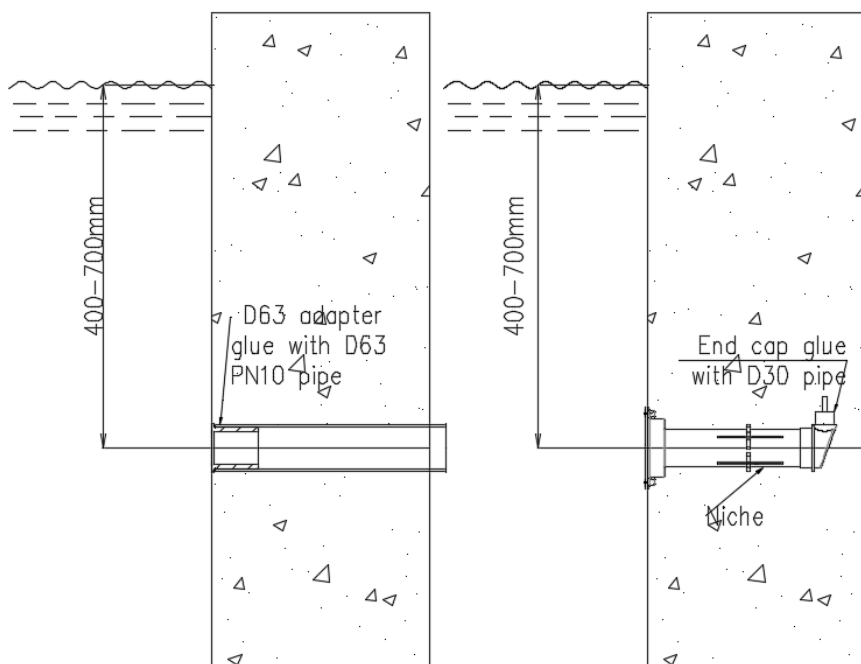

Fig. 1
1. Install the D63 adapter(or wall conduit) in the concrete wall, at a distance of 400-700 mm below the water level (Fig. 1).
The light should be installed at approximately 400 mm below the water-level of the SPAS and in a place where it cannot easily be covered by the body of a person. Install it preferably in the wall of the steps at the entrance of the SPAS (Fig.1).